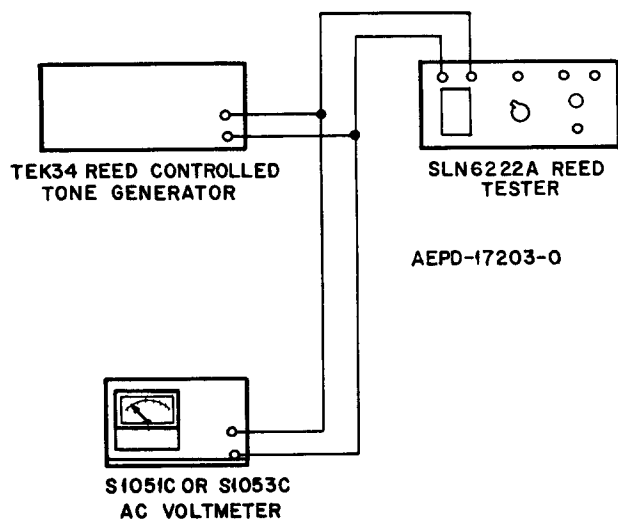
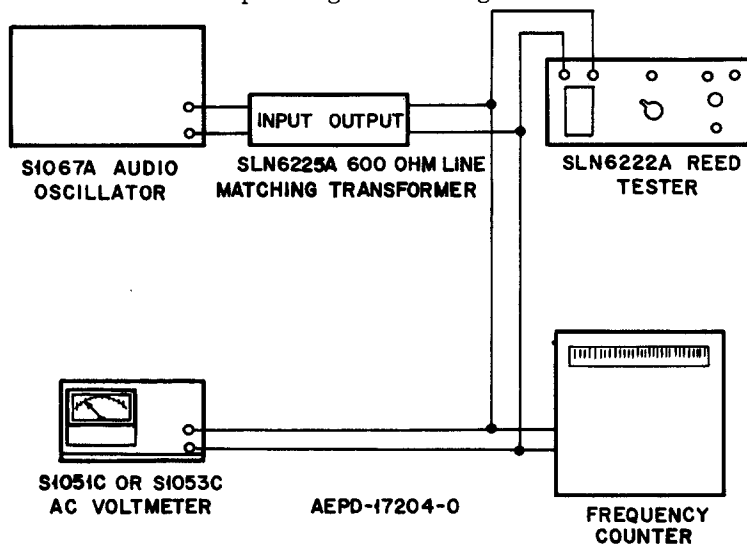

Figure 9. Group 4 Reeds Threshold Sensitivity Test Set Up
Figure 10. Group 4 Reeds Alternate Threshold Sensitivity Test Set Up
Step 2. Connect the test equipment as shown in Figure 9 or Figure 10. Use shielded cables to avoid hum pickup.
Step 5. Set the audio oscillator (Figure 10) output voltage to the maximum threshold voltage indicated in Table 2. Set the oscillator frequency to the "Vibrasponder" resonant reed frequency by using the frequency counter set to 0.1 Hz resolution or 10 second count.